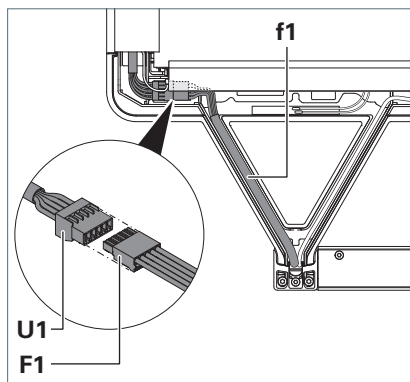

Fig. 16: Connecting the supply cable.
7. Take the pin strip **U1** out of the compartment under the heat sink, see Fig. 16.